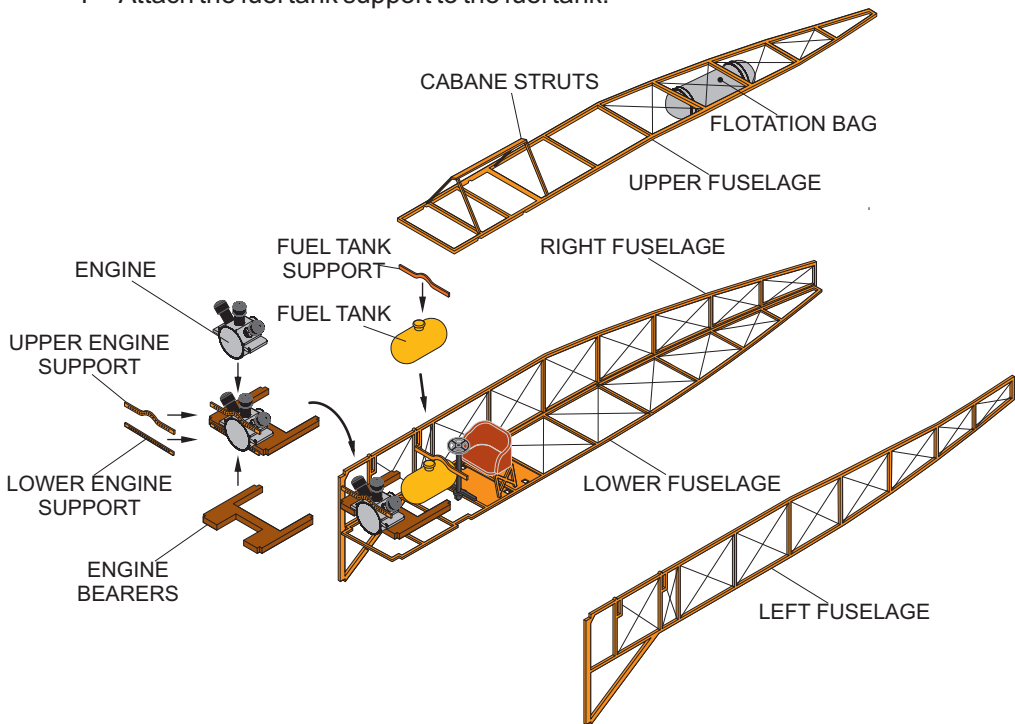

Figure 4
- H Attach the engine to the engine bearers, and the upper and lower engine supports to the front of the engine (see Figure 4).